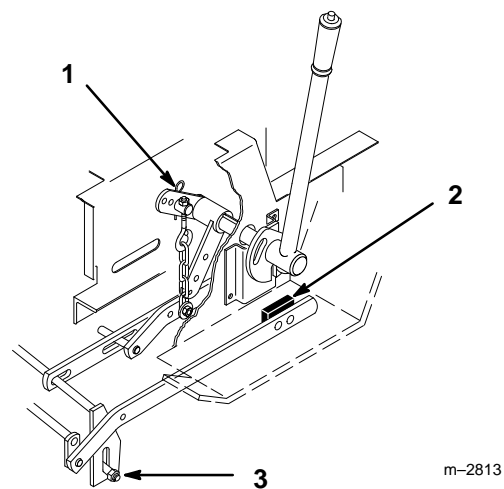

Figure 10
2. Adjust lift chain by turning trunnion on eyebolt in rear hole of tractor lift (Fig. 10). Turn trunnion clockwise to raise or counterclockwise to lower mower.
3. Transport level stops are normally in the bottom of the slot, however they can be adjusted up for side-to-side level when extra weight from a grass catcher is on one side (Fig. 10).